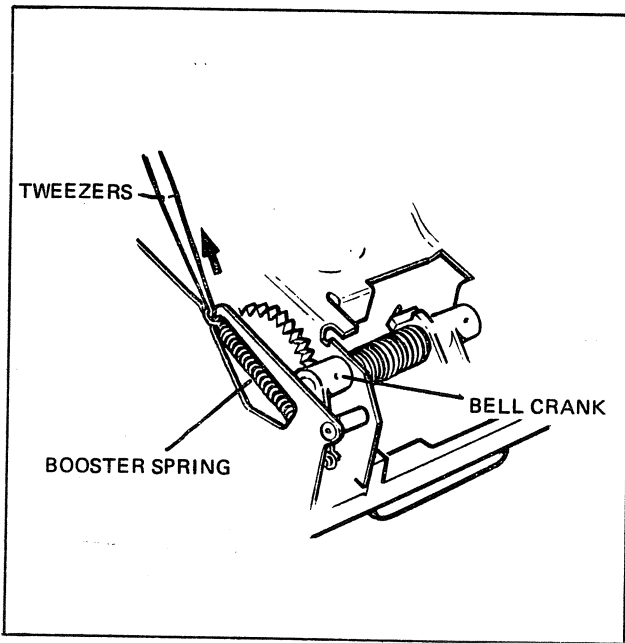

FIGURE 4-36 REMOVING BOOSTER SPRING
10. Refer to Figure 4-36. Use the tweezers to catch the end of the booster spring. Stretch the spring just enough to unhook the end of the spring.